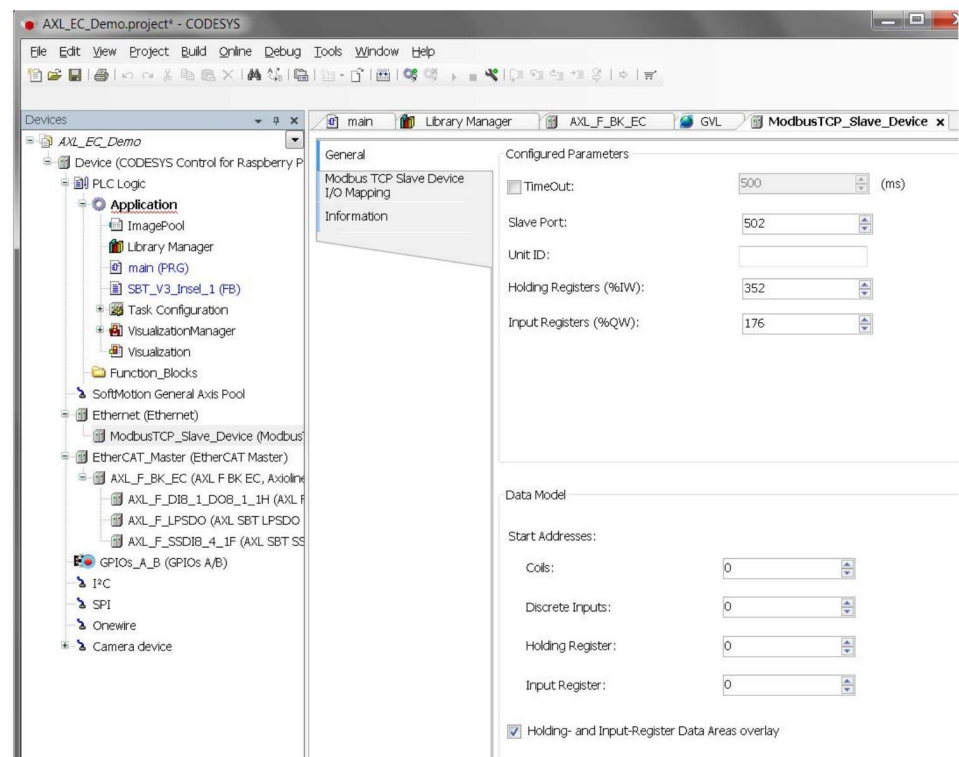

Figure 3-37 Integrating Modbus TCP
- Integrate a Modbus TCP slave in your CODESYS-based controller using the parameters shown in Figure 3-37.